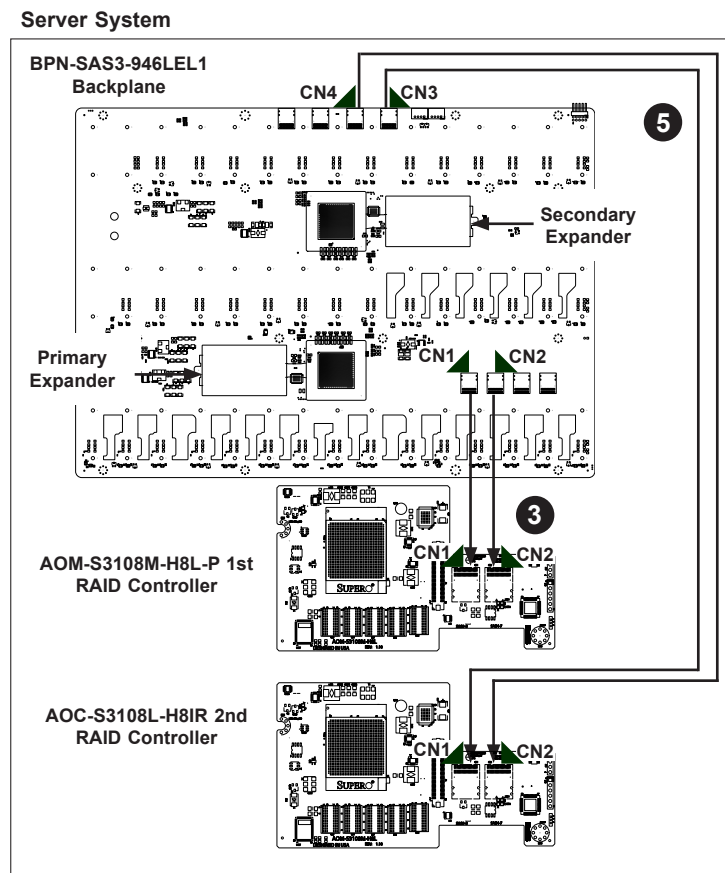

Figure C-7. Backplane Cascading Configuration
3. Plug the cables into connectors CN1 and CN2, then route them to connectors CN1 and CN2 on the underside of the AOM-S3108M-H8L-P RAID controller card located within the same server as the backplane, as illustrated in Figure C-7.
5. Connect the cables to CN3 and CN4, then route them to CN1 and CN2 on the underside of the AOC-S3108L-H8IR RAID controller card in the same server, as illustrated in Figure C-7.